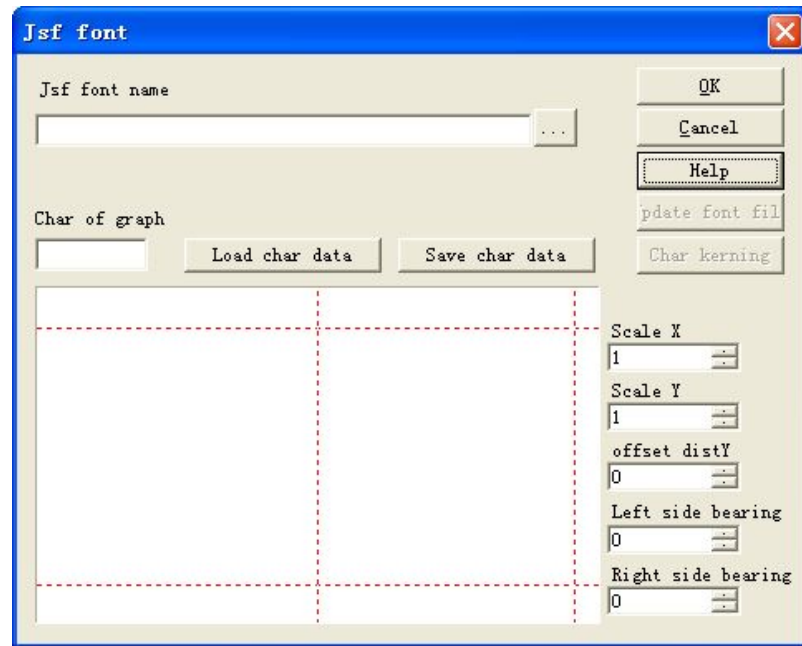

Fig 5-17 JSF font
When the user click JSF font, system will show a dialogue as figure 5-17.
Click "Modify" "JSF Fonts", then shown a font dialogue box as figure 5-17. Click button , and find ezcad2\font catalogue in the dialogue, input "EZCAD0521", and then click the button to indicate dialogue as the follow figure 5-23 .
1. Click "JSF fonts" under "modify" menu, then shown the JSF font dialogue, as the figure 5-17->Click , open the dialogue to find the route: ezcad2\font->Input "EZCAD0521"--